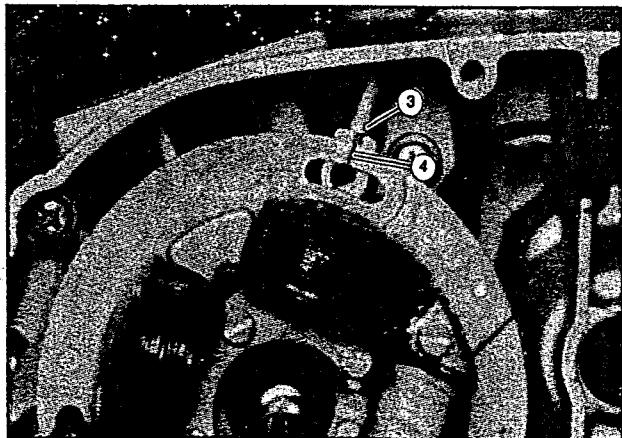

Fig 2.23
The ignition timing may have to be advanced or retarded. Reference marks (3) and (4) (fig 2.23) have been provided on the crankcase and stator plate respectively. These marks are to be used as reference whenever the stator plate setting is disturbed. Initially these marks should be in alignment. If the timing is to be advanced, rotate the stator plate in the clockwise direction. If the timing is to be retarded, rotate the stator plate in the anti-clock wise direction.